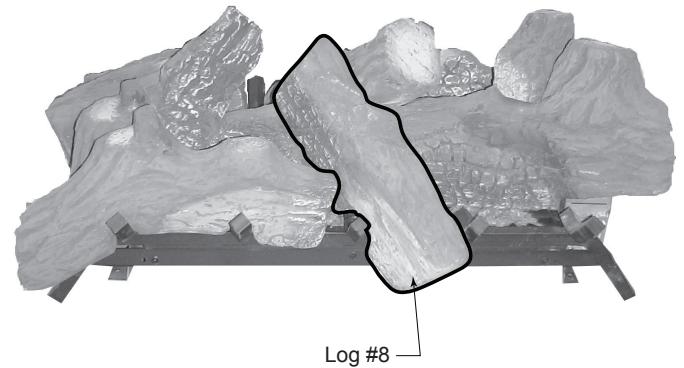

Figure 5.8 - Place Log #8
- Place log #8 by aligning 'V' notch in bottom of log with the horizontal grate bar between tines as shown in *Figure 24*. Place the rectangular notch on bottom of log onto rectangular protrusion on middle of log #1. *Figure 5.8*